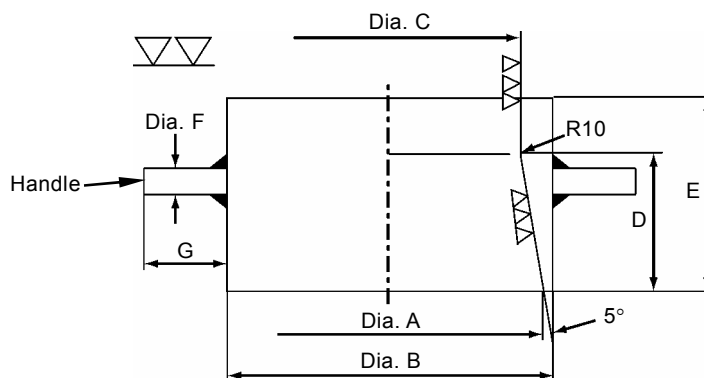

Figure 5: Special Tool for Piston Seal Reforming
- For special tool for seal ring reform: Refer to figure 5 + table 4